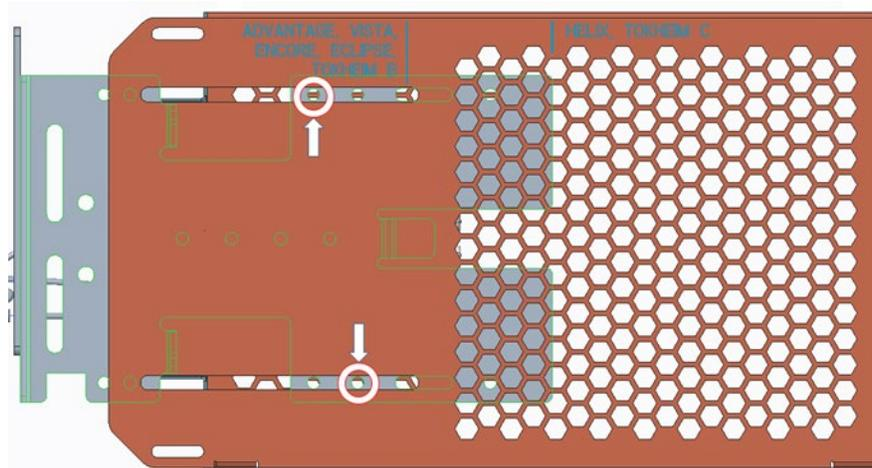

Figure 235
- 7) Insert and tighten two of the thread forming 006-8626667 screws at the locations shown in Figure 235 to secure the wire guard (497-0522796) to the NCR heater assembly